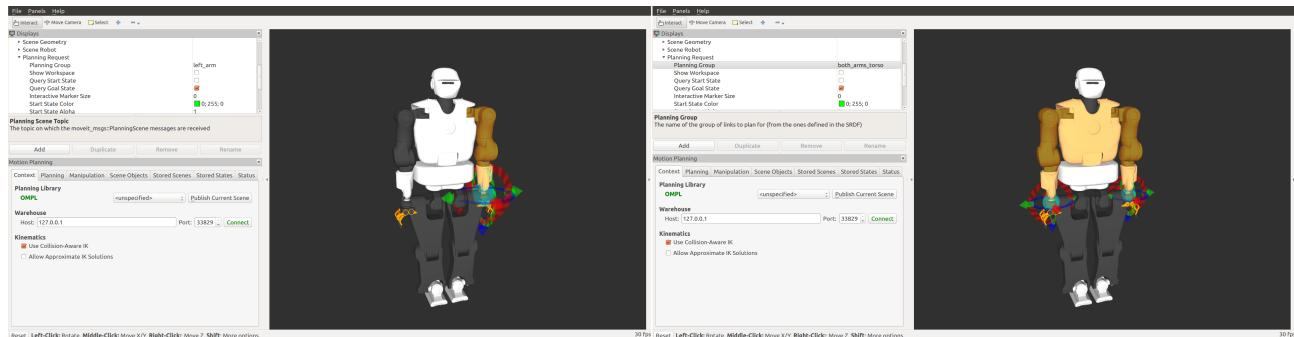

Figure 65: *MoveIt!* graphical interface in RViz. TALOS with the planning group *both\_arms* (left) and with the planning group *left\_arm* (right).
2. *MoveIt!* uses planning groups to generate solutions for different kinematic chains. Figure 65 shows that by selecting different planning groups, the GUI shows only the relevant “flying end-effectors”.